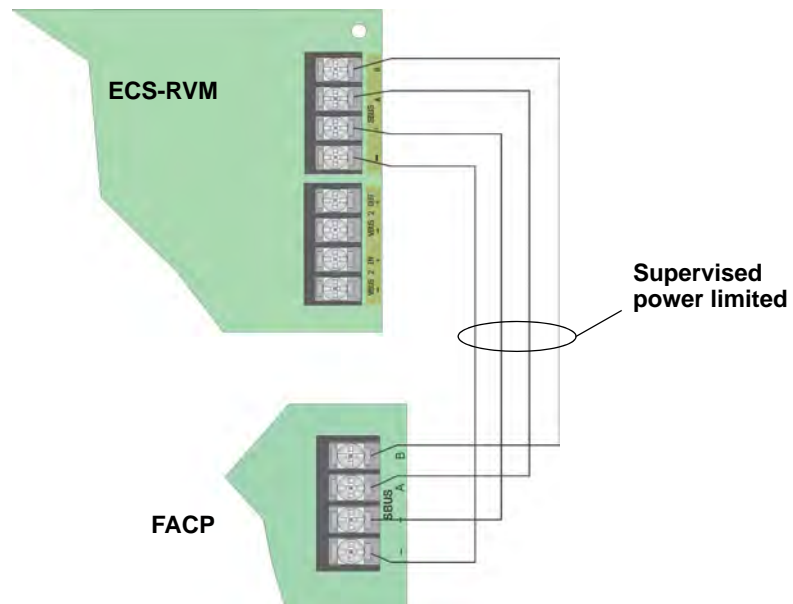

Figure 4.55 SBUS Connections
1. Refer to Figure 4.55 to properly connect the ECS-RVM to the FACP's SBUS.
2. Disconnect the SBUS connections from the SBUS terminals on the ECS-RVM. See Figure 4.55.